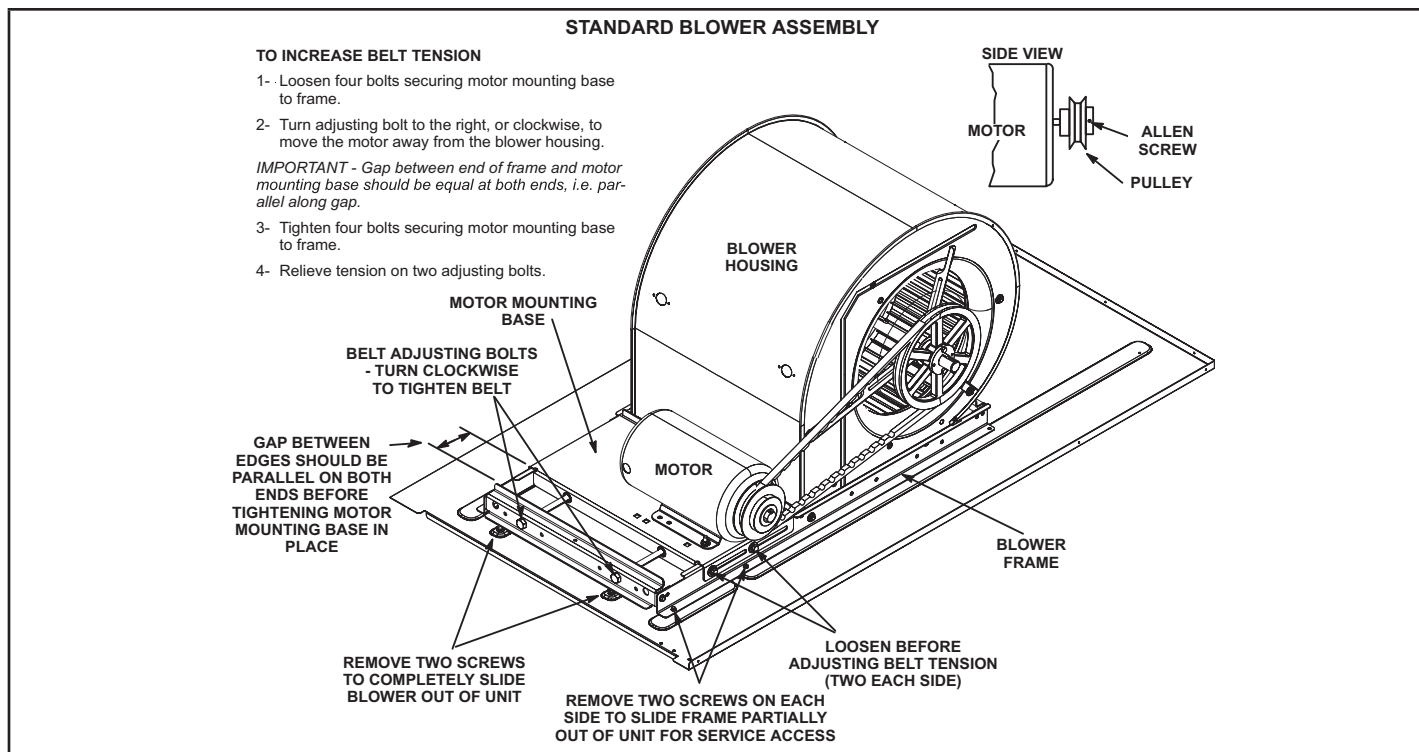

FIGURE 11
The blower compartment in all KHC units is located between the indoor coil and the outdoor coil section. The blower assembly is accessed by disconnecting the blower motor and all other plugs and removing the screws in front of the blower housing. The blower pulls out as shown in FIGURE 11.
The blower assembly is secured to a sliding base which allows the entire assembly to be pulled out of the unit. See figure 11. Follow the steps below.
- 4 - The blower RPM can be adjusted at the motor pulley. Loosen Allen screw and turn adjustable pulley clockwise to increase CFM. Turn counterclockwise to decrease CFM. See FIGURE 11. Do not exceed minimum and maximum number of pulley turns as shown in TABLE 4.
- 1 - Loosen four bolts securing motor base to mounting frame. See FIGURE 11.